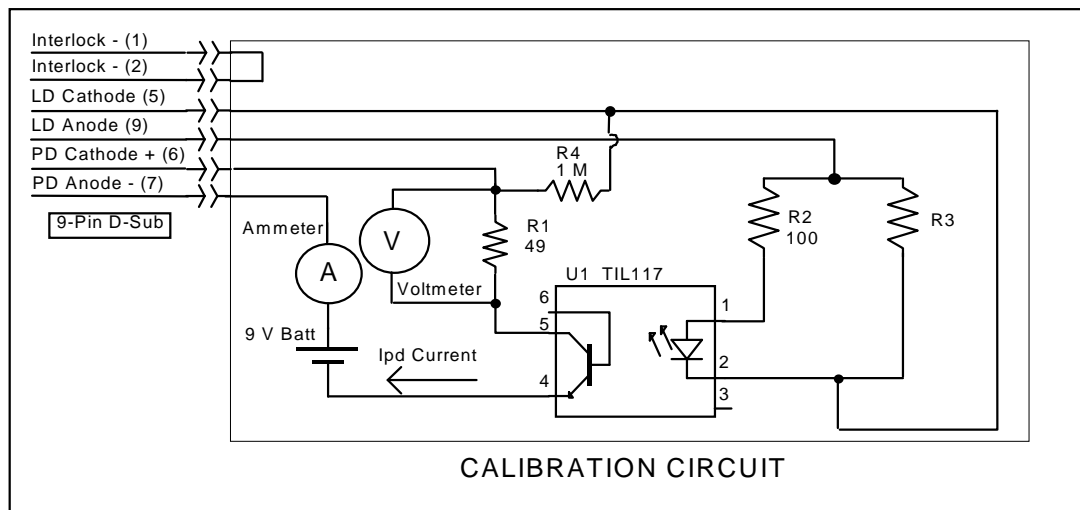

Figure 3.1 I_{PD} Calibration Circuit
- 1 Select the LCM-39427/437 to be calibrated by pressing the appropriate (ADJUST) switch until the LAS indicator is orange. With the LASER output off, connect a calibrated ammeter to the PD Anode output of the LCM-39427/437, and connect the circuit of Figure 3.1 to the LASER and PD outputs.
If a calibrated ammeter (with 0.1 μA resolution) is not available, place a calibrated DMM (with 0.1 mV resolution) to measure the voltage across the resistor, R1, as shown in Figure 3.1. Calculate the current in the following steps by using Ohm's Law:
- 1 With the LASER output off, connect a calibrated ammeter to the PD Anode output of the LCM-39427/437, and connect the circuit of Figure 3.1 to the LASER and PD outputs.